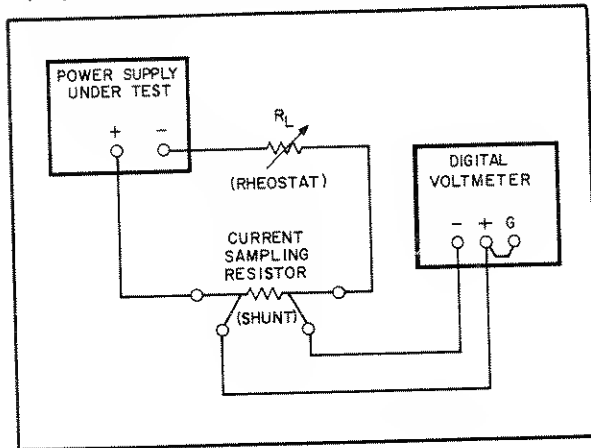

Figure 5-2. Output Current, Test Setup
a. Connect test setup shown in Figure 5-2. Select load and current sampling resistor values according to Paragraphs 5-11 and 5-13.